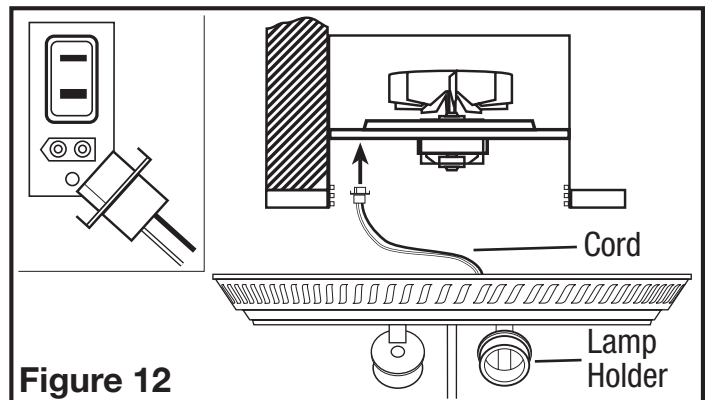

Figure 12
3. Plug cord from lamp holders into the appropriate receptacle (Figure 12).